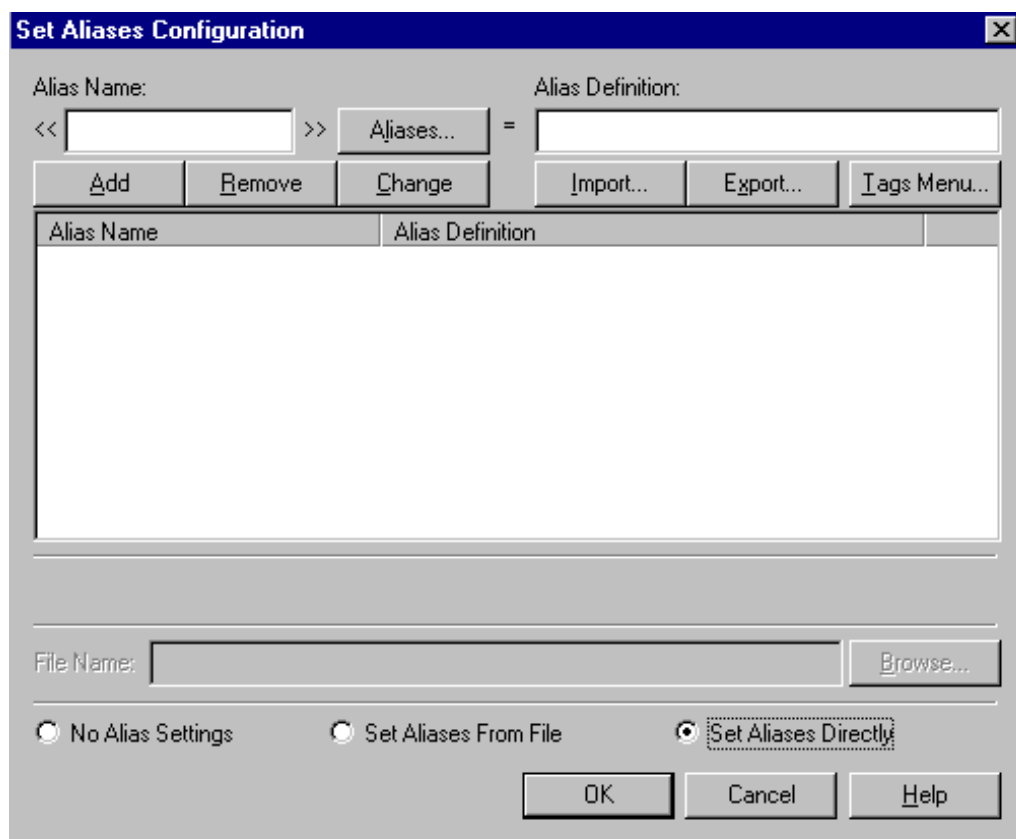

Figure 10-11: Set Aliases Configuration Dialog Box
1. Click the Set Aliases button on the Pick tab of the Property Inspector. The Set Aliases Configuration dialog box appears (Figure 10-11).